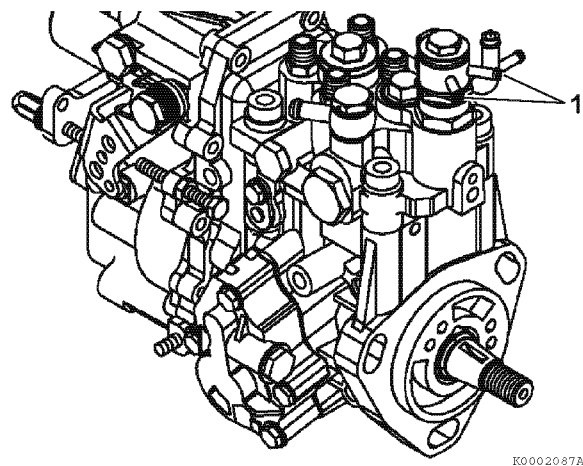

Figure 6-4
3. Disconnect the coolant hoses from the cold start device (1, **Figure 6-4**) on the fuel injection pump.